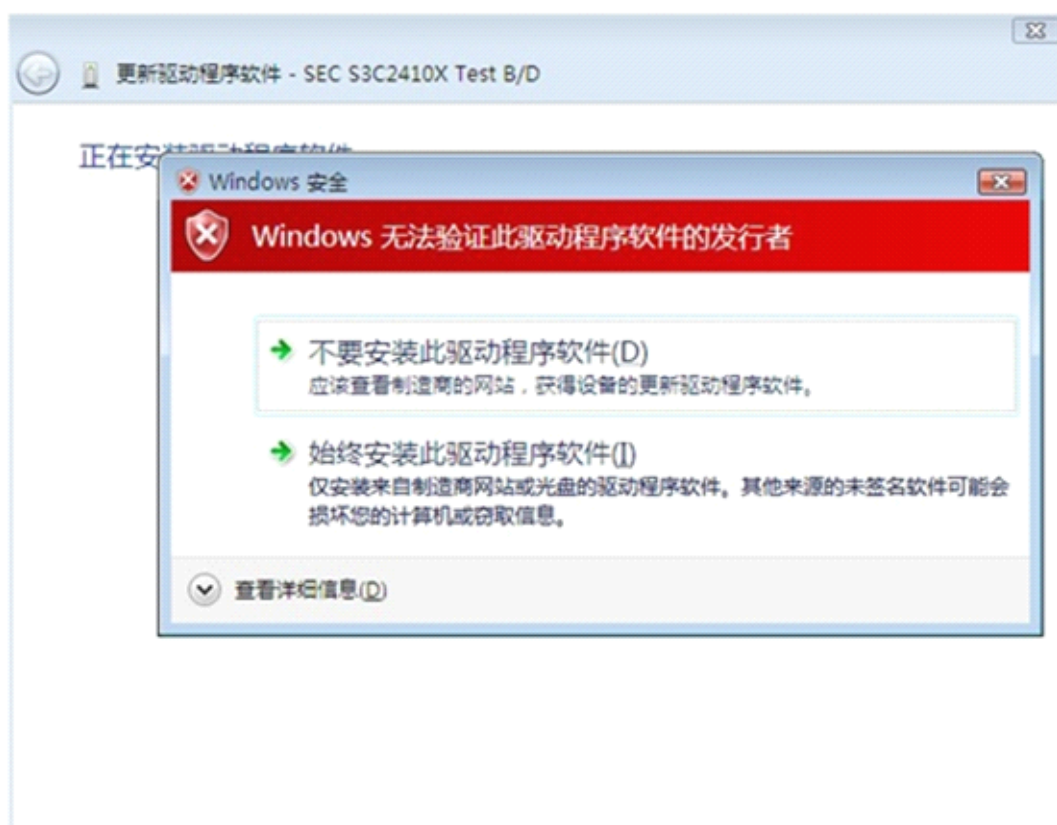

Figure 2-21: Driver installation
- Choose “Always install this driver software”. See Figure 2-21.